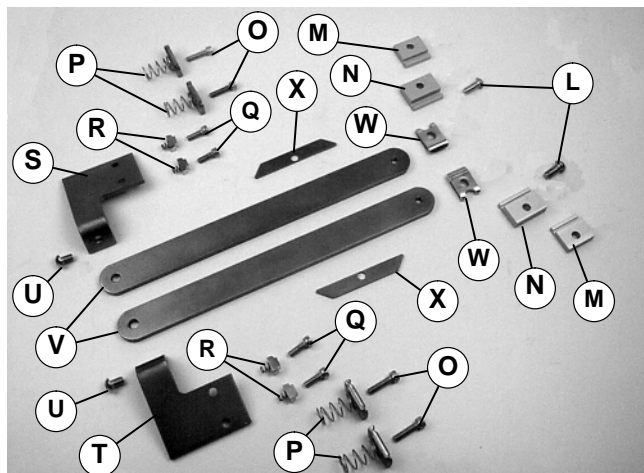

Figure 3
- For aluminum stands, parts (O & P of Figure 3) are not used; please discard
1. Typical components (Figure 3)